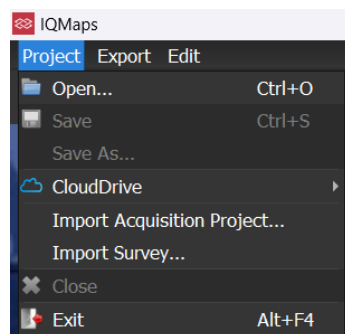

Fig. 35 Open project
- Press on the **Project** icon (top left corner of Fig. 26) and select **Open...** option (Fig. 35), or directly press on  icon,